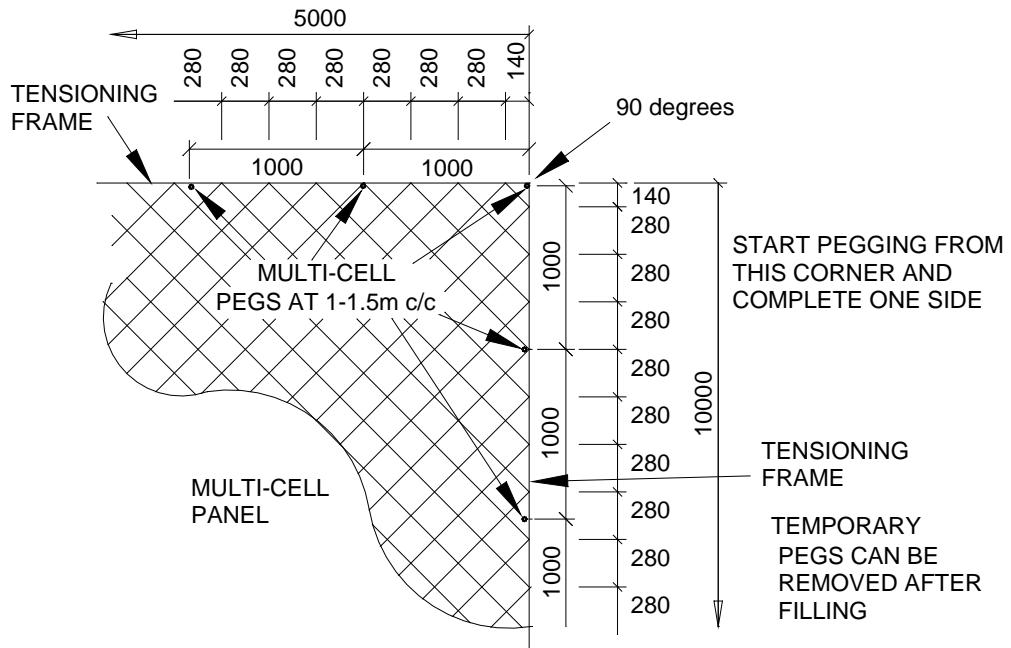

Figure 1
- Set out area to be covered by Multi-Cell®. Lay the first panel expand and peg the tension frame, 1 to 1, 5 m across the long side (Figure 1). Y10 or Y12 pegs can be used.
- Set out area to be covered by Multi-Cell®. Lay the first panel, expand and peg the tension frame, 1 to 1,5 m across the long side (Figure 1). Y10 or Y12 pegs can be used.